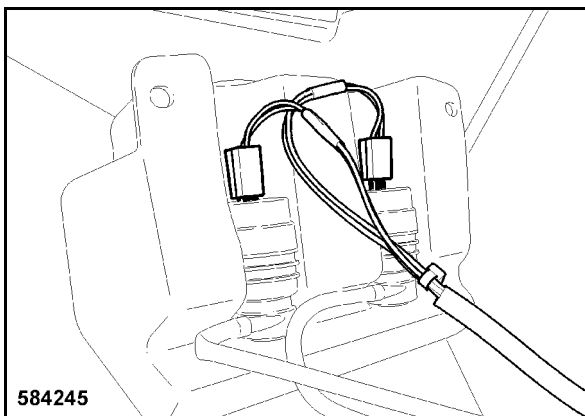

Fig. 225
- Plug on both connecting plugs for the washing water pumps (Fig. 225).